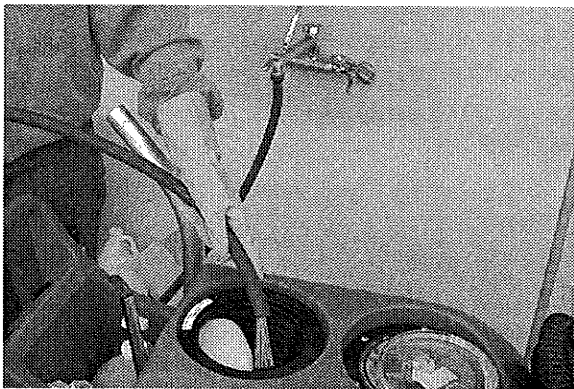

FIG. 40
2. Drain and rinse recovery tank thoroughly (Figure 40).